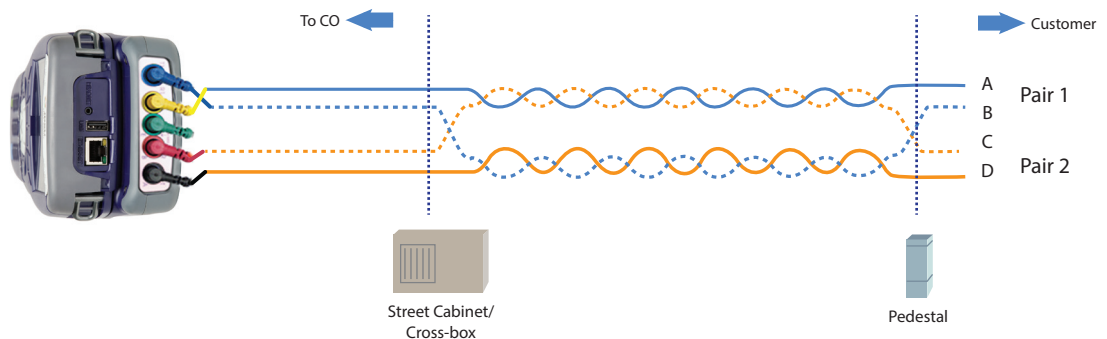
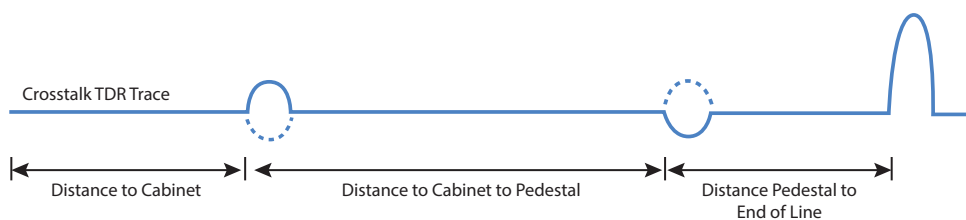

Figure 2. Finding the Split Pair Companion
Figure 3. Finding the Split Pair Companion
The JDSU HST-3000 Crosstalk TDR (time-division reflectometer) can isolate the companion pair in the split. Figure 2 shows one conductor in pair 1 inadvertently twisted with a conductor in pair 2. Connecting an HST-3000 and launching the crosstalk TDR, the HST-3000 transmits energy onto pair 1 (through the yellow and blue leads) inducing an echo on pair 2 at the HST (through the red and black leads). Figure 3 depicts a representative crosstalk TDR trace.
7. Attach the yellow and blue leads (shown in Figure 2) to the suspected split pair.